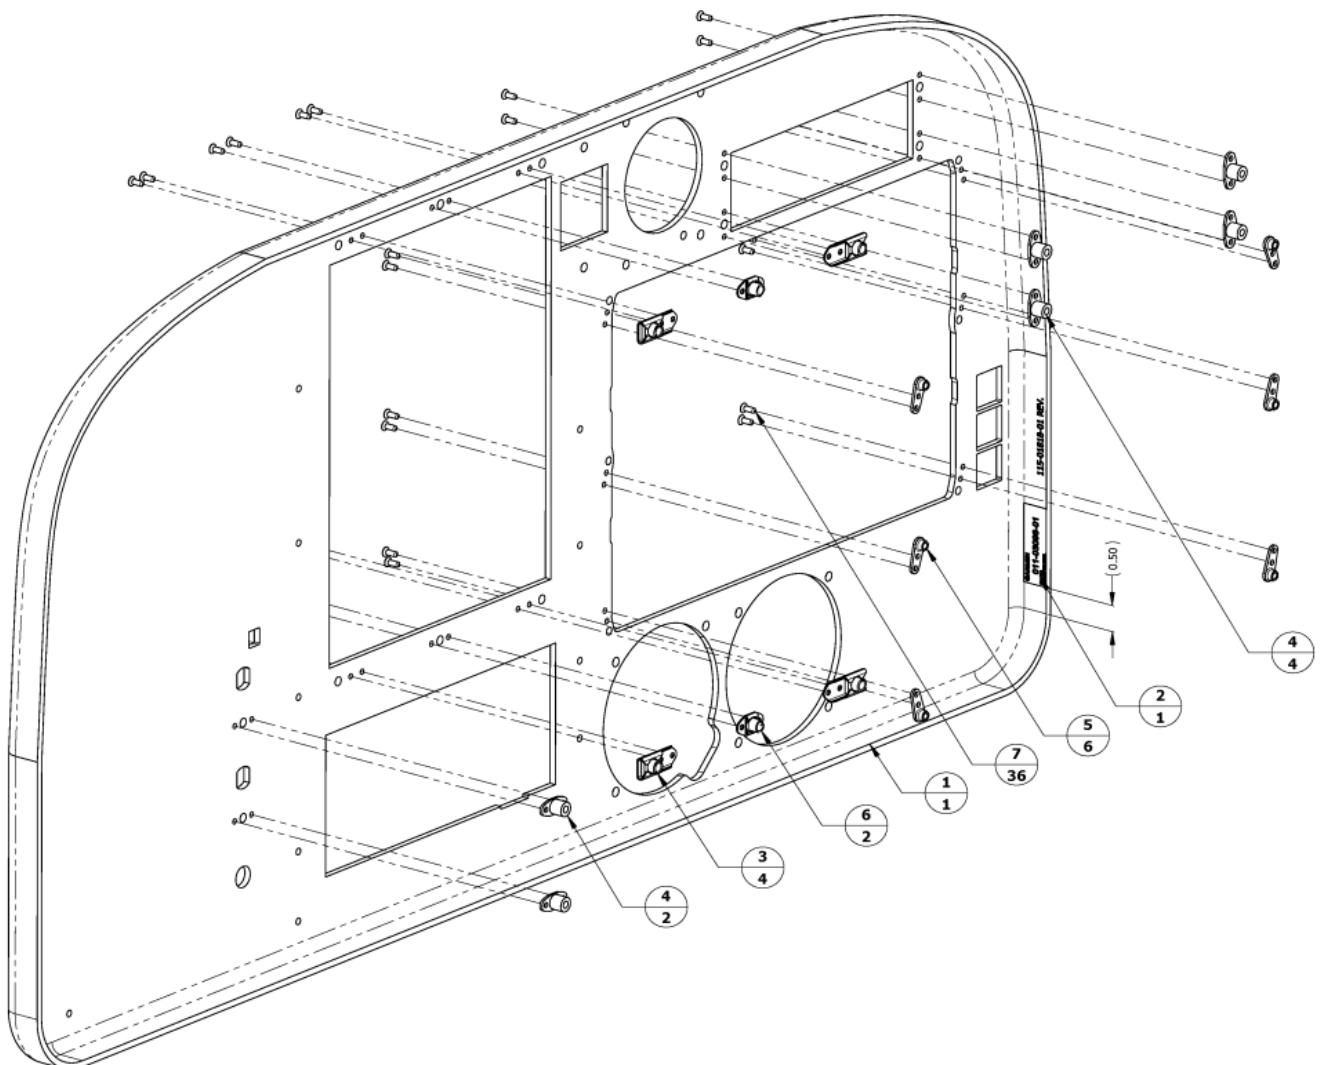

Figure 31-08
*Reference Table 31-08 and Figure 31-08.
Table 31-08 Parts List for Figure 31-08